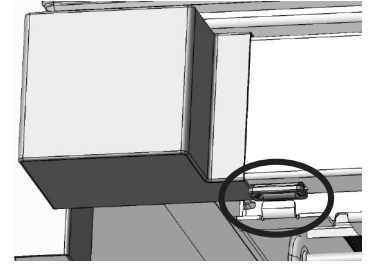
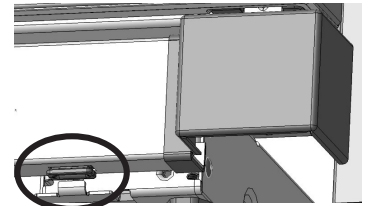

Fig. 26
Fig. 27
26. a. Carefully place the Toe Kick over the 4 Leveler Assembly Slots. The first Leveler Assembly slot is circled in Fig. 26, and the fourth Leveler Assembly slot is circled in Fig. 27.